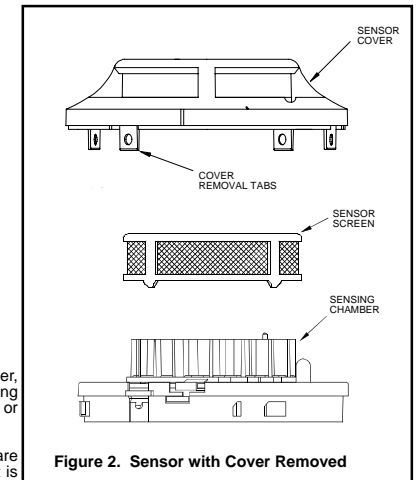

Figure 2. Sensor with Cover Removed
- Remove the sensor cover. Use a small flat blade screwdriver to gently release each of the four cover removal tabs that hold the cover in place (see Figure 2).